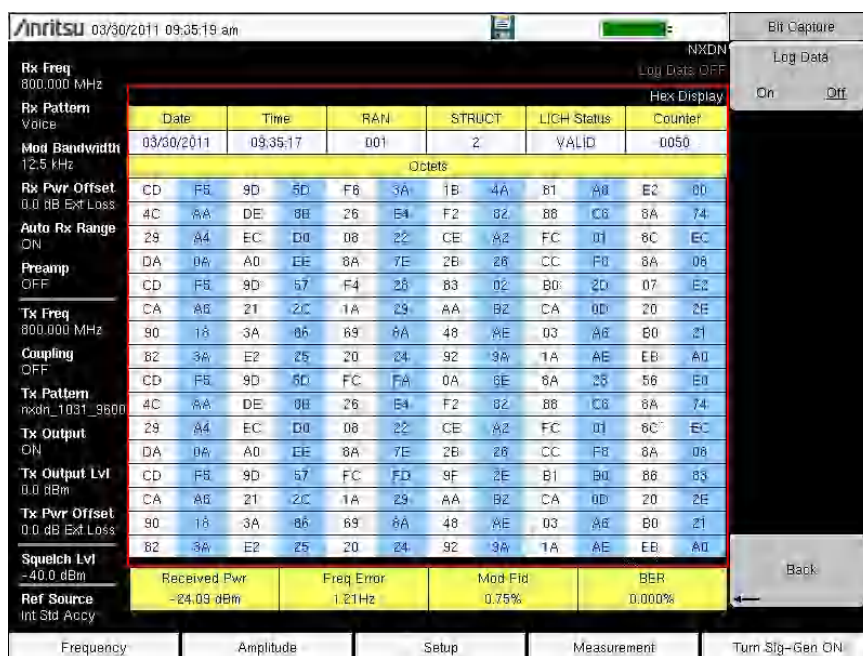

Figure 3-14. Bit Capture Measurement
3. To save bit capture data for additional analysis, insert a formatted USB memory device into the LMR Master and turn Log Data On. (Figure 3-14).